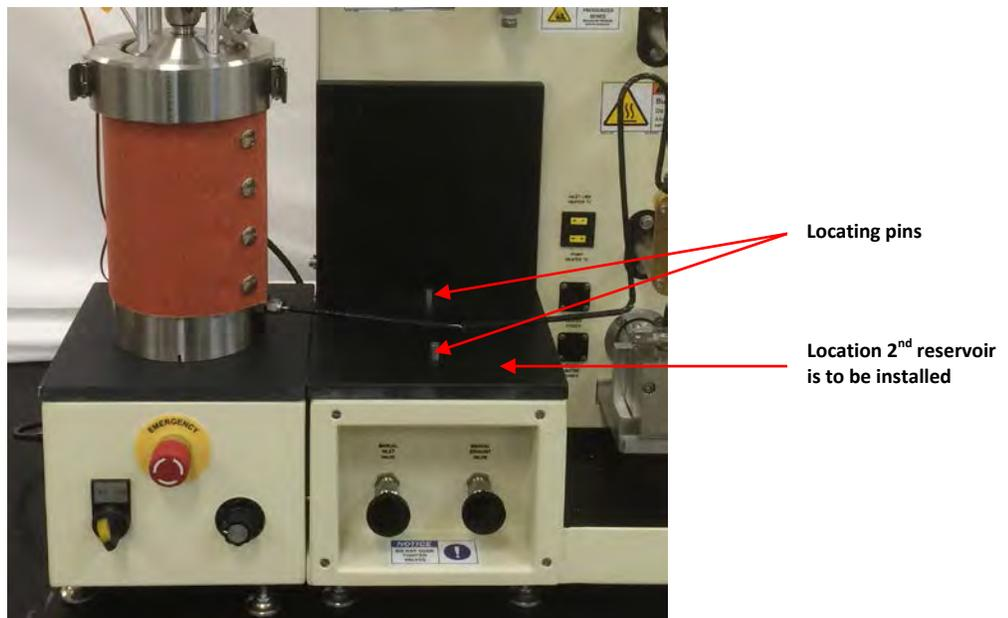

Figure H12 – Location reservoir #2 on machine
1. Place the non-stirred reservoir assembly (catch reservoir) on the machine using the locator pins. This reservoir is referred to as reservoir #2. Refer to figure H12 for location of reservoir #2.